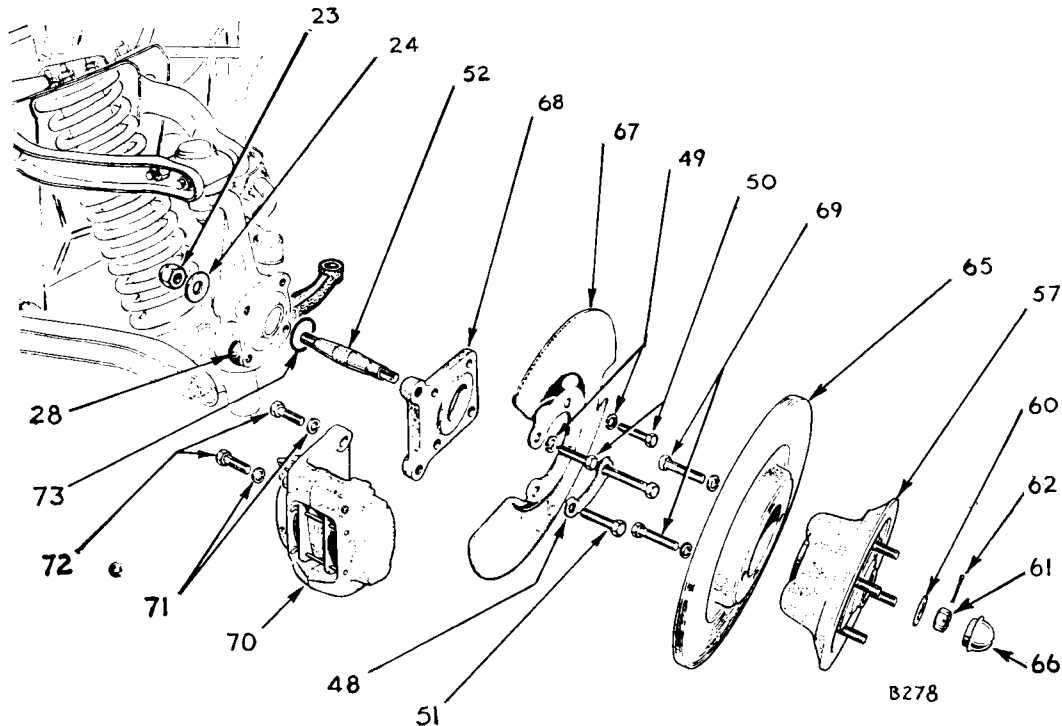

Fig. 33. Exploded details of disc brake components
NOTE : Vehicles with Commission Nos. from G.A.99486 (Herald 1200), F.C.2393 (Spitfire), H.B.7082 (Vitesse) and G.D.215 (Herald 12/50) have a rubber seal (73), Fig. 33, fitted between the recessed face of the caliper bracket and the vertical link.